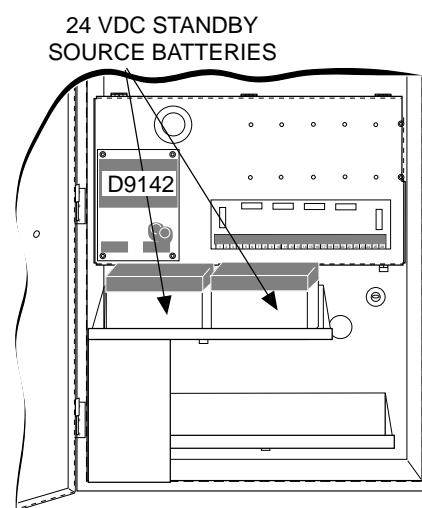

Figure 18: 24 VDC Standby Source Batteries
1. Place the batteries on the top battery shelf (see Figure 18).